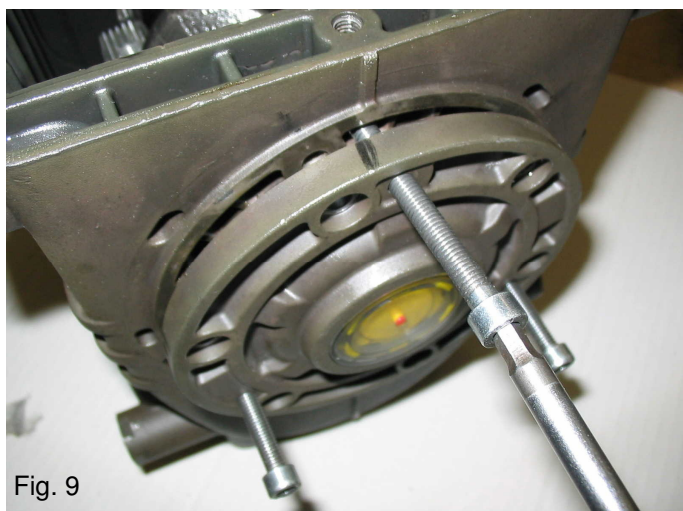

Fig. 9
- side covers. To do so, put N° 3 screws M6x50 wholly threaded into the holes drilled for that purpose. See fig. 9.